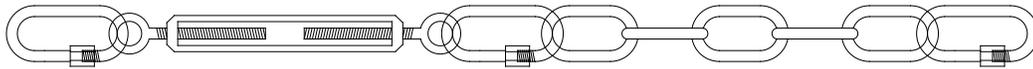

Figure 3
Figure 3 is a representation of the Link assembly. This assembly **MUST** be used whenever the Pole Mount System-3 is being used.
**INSTALLING THE POLE MOUNT SYSTEM-3 WITHOUT THE LINK IS NOT ALLOWED!** The Link (see figure 3) consists of stainless steel quick links, a stainless steel turnbuckle, and several links of stainless steel chain. **DO NOT SUBSTITUTE ANY PART OF THIS LINK ASSEMBLY!**